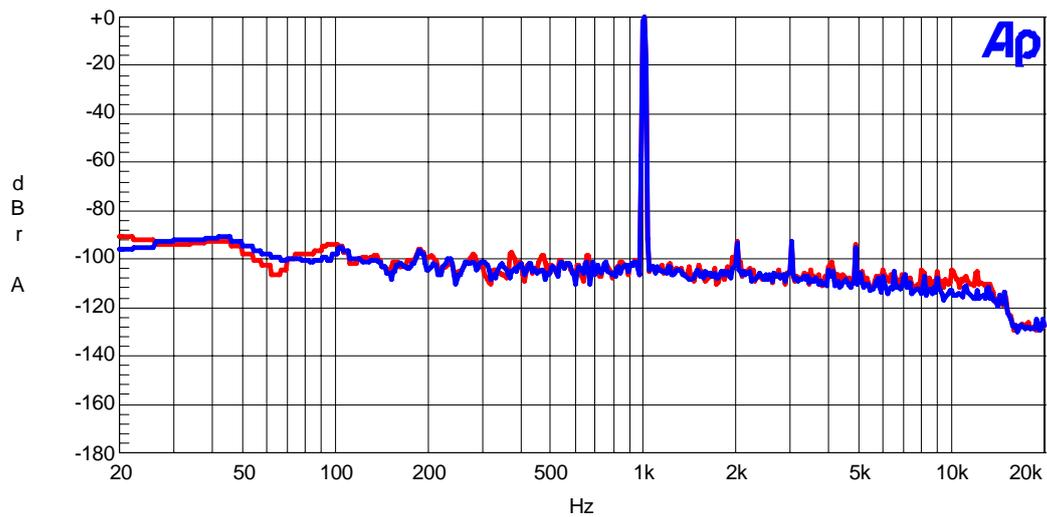

Figure. 14 Stereo mode FFT Plot (-1dB)
- Figure. 14 : FFT Plot (-1dB)